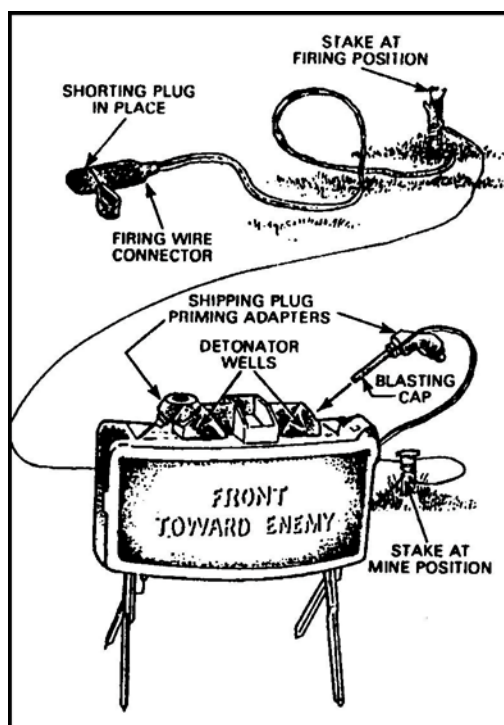

Figure 11. Arming the mine.
- d. Pull the excess wire through the slotted end of the adapter until the top of the blasting cap is firmly seated in the bottom portion of the shipping plug priming adapter (Figure 11).